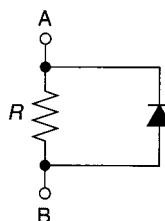

FIGURE 2.54
54. Explain how you could measure the value of  $R$  in Figure 2.54 without disconnecting the diode.